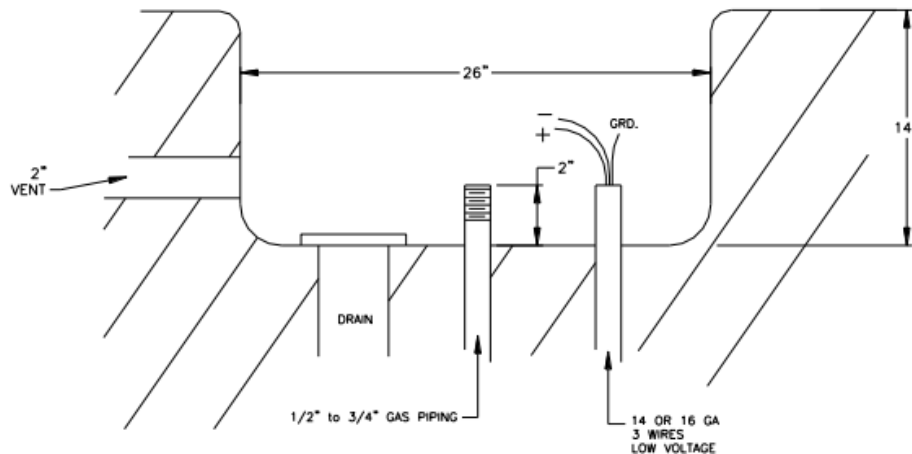

Figure 4: Space Required for Model 100 Burner Assembly in Rock Cavity
3. The piping must be reduced to 1/2" NPT or larger at each bowl, as shown in Figure 4.
Note: The gas and electrical connection at each bowl must be located at the center of each bowl. The connections must be installed as shown in Figure 4.